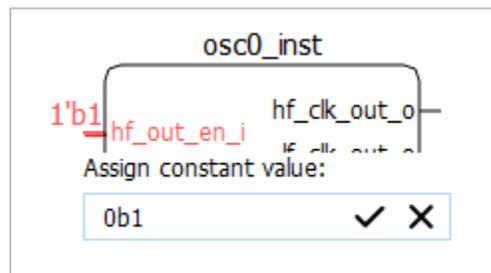

Figure 2.88. Dialog Box of Assigning Constant Value to an Input Pin
2. A small dialog box appears (Figure 2.88). Enter the desired value. To erase the value and start over, click X. For all buses (more than one pin), the format is hexadecimal. Make sure the value fits the number of pins in the bus. For example, a 3-pin bus can accept 0-7, but not 8.